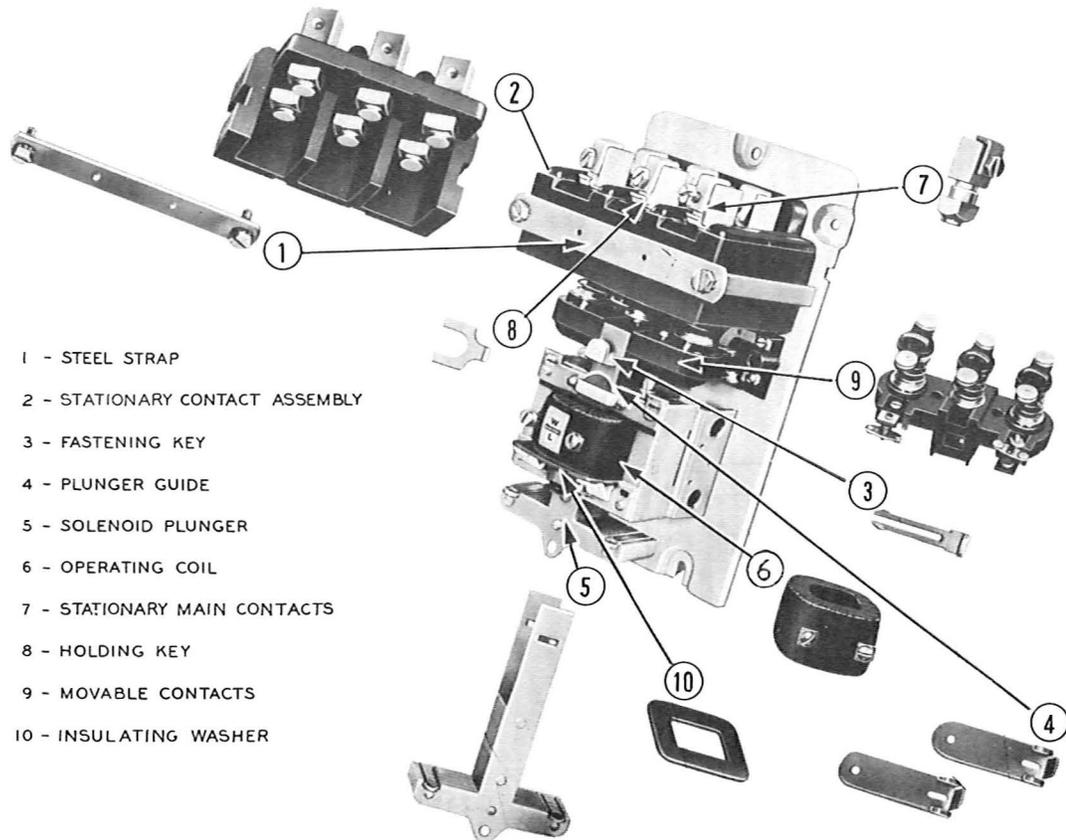

Fig. 9 - KS-5770 Starter
(9) To obtain access to the main contacts, remove the steel strap (1) and slide out the contact assembly. The stationary main contacts (7) can be removed individually for replacement by removing the associated key (8) and rotating the contact. To remove movable contacts, press down, rotate 90 degrees, and withdraw. If the contacts fail to meet the requirements for freedom of build-ups, they may be smoothed with the burnisher or with abrasive cloth while the contact assembly is removed from the starter. See Fig. 9.